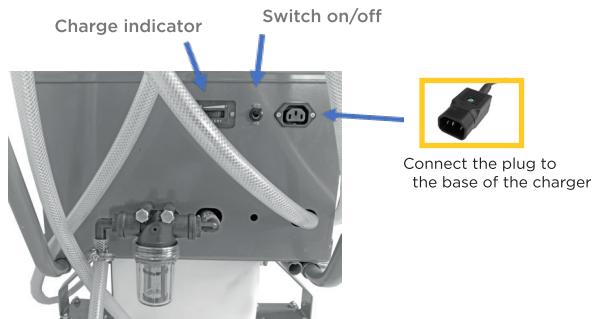

Figure 8
7. Operate the On / OFF switch for two seconds to check that it works, (figure 8).
10. Check that the battery is never discharged, when the yellow bar is activated it indicates that the battery has reached its minimum level of charge and must finish and recharge. When the red bar is activated, it indicates that the battery charge level is below the minimum and may damage it if it does not stop and recharge (figure 8).